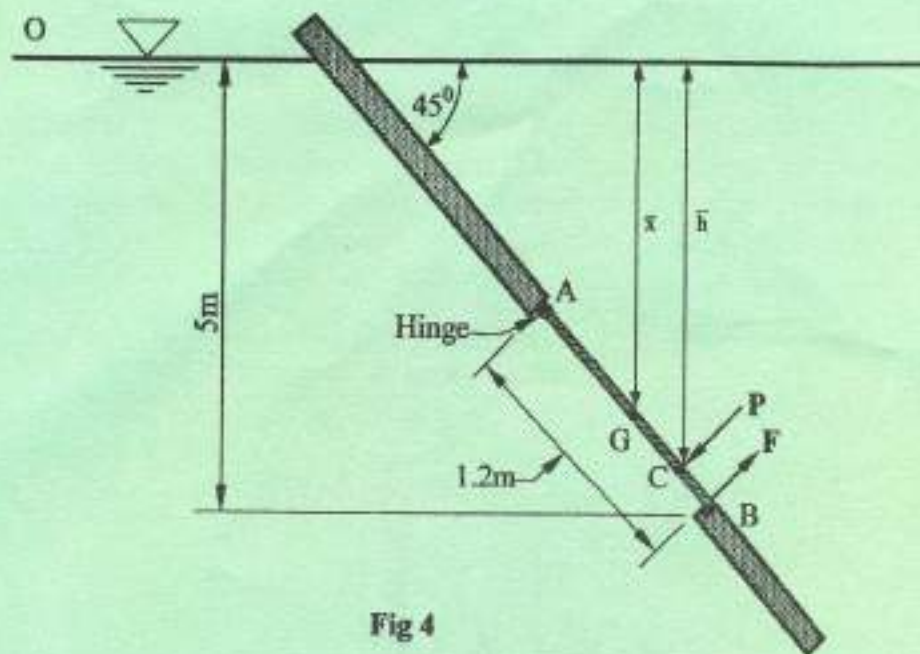

Fig 4
- 7 (a) An inclined rectangular sluice gate AB, 1.2m x 5m is installed as shown in Figure 4. If the end A is hinged, determine the force F normal to the gate applied at B to open it.